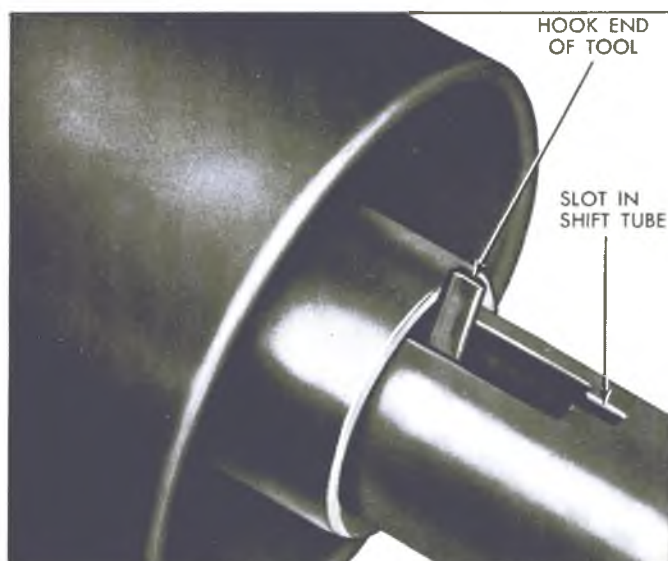

Fig. 97—Removing Shift Tube Assembly
14. Remove the shift tube assembly using Tool J-22551 (fig. 97). Insert the hooked end of the tool into the notch in the shift tube just below the shift lever housing key. Pilot the sleeve over the threaded end of the tool and into the upper end of the shift tube. Force the shift tube out of the housing by turning the nut onto the tool. If the shift tube is not completely free when the nut is bottomed on the threads, complete the removal by hand.